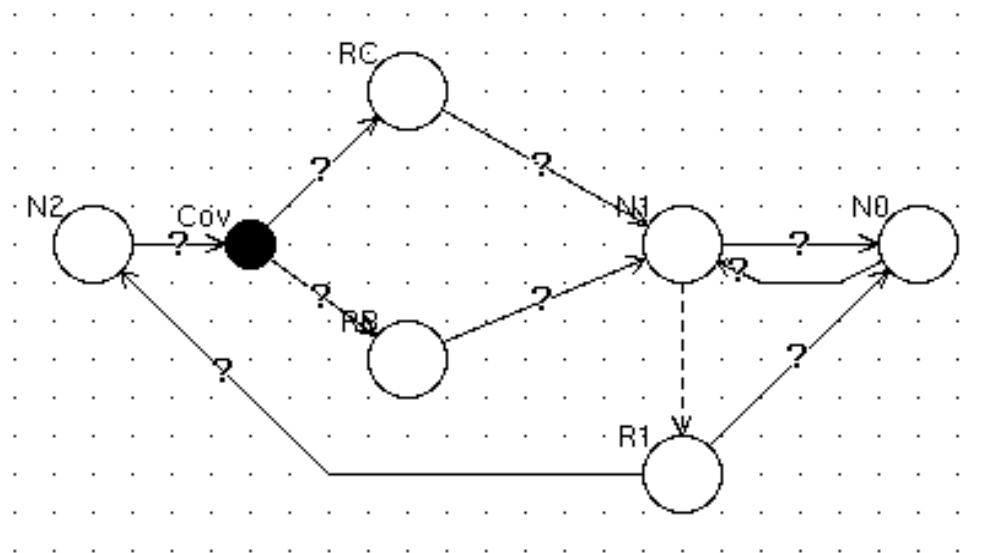

Figure 27: States and transitions.
- Step 14:** The example model contains only the reconfiguration edge between state **N1** and **R1**. Thus, first click at state **N1** and then at state **R1**. A reconfiguration edge between the two states appears. The drawing area should now look like figure 27.